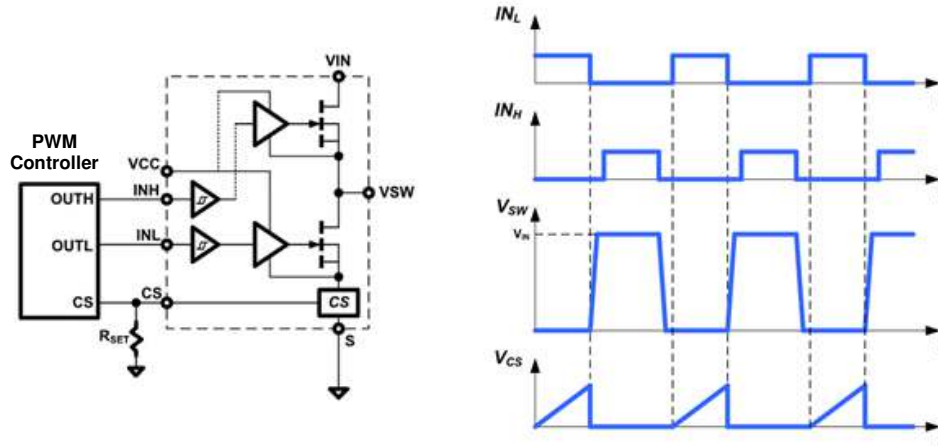

Fig. 29. External resistor sensing vs. GaNSense™ Technology
For many applications it is necessary to sense the cycle-by-cycle current flowing through the low-side GaN power FET. Existing current sensing solutions require a current sensing resistor to be placed in between the source of the low-side GaN power FET and P_{GND} . This resistor method increases system conduction power losses, creates a hotspot on the PCB, and lowers overall system efficiency. To eliminate this external resistor and hotspot, and increase system efficiency, this GaN Half-Bridge IC includes GaNSense™ Technology for integrated and accurate loss-less current sensing. The current flowing through the internal low-side GaN power FET is sensed internally and then converted to a current at the current sensing output pin (CS). An external resistor (R_{SET}) is connected from the CS pin to the Source (P_{GND}) and is used to set the amplitude of the CS pin voltage signal (Fig. 29). This allows for the amplitude of the CS pin signal to be programmed so it is compatible with different controllers with different current sensing input thresholds.